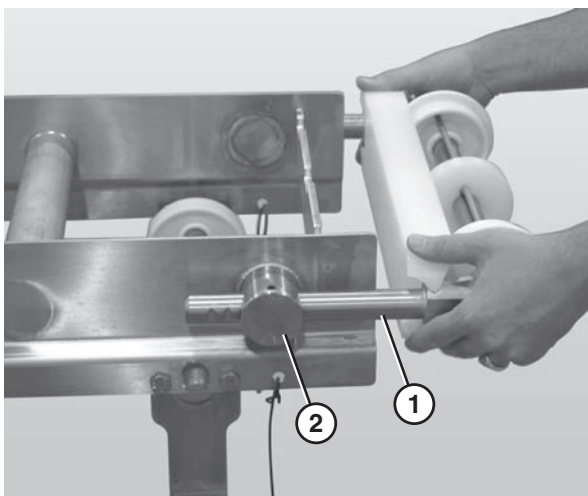

Figure 70
2. Slide the idler tail assembly (**Figure 70, item 1**) out of the take up blocks (**Figure 70, item 2**).